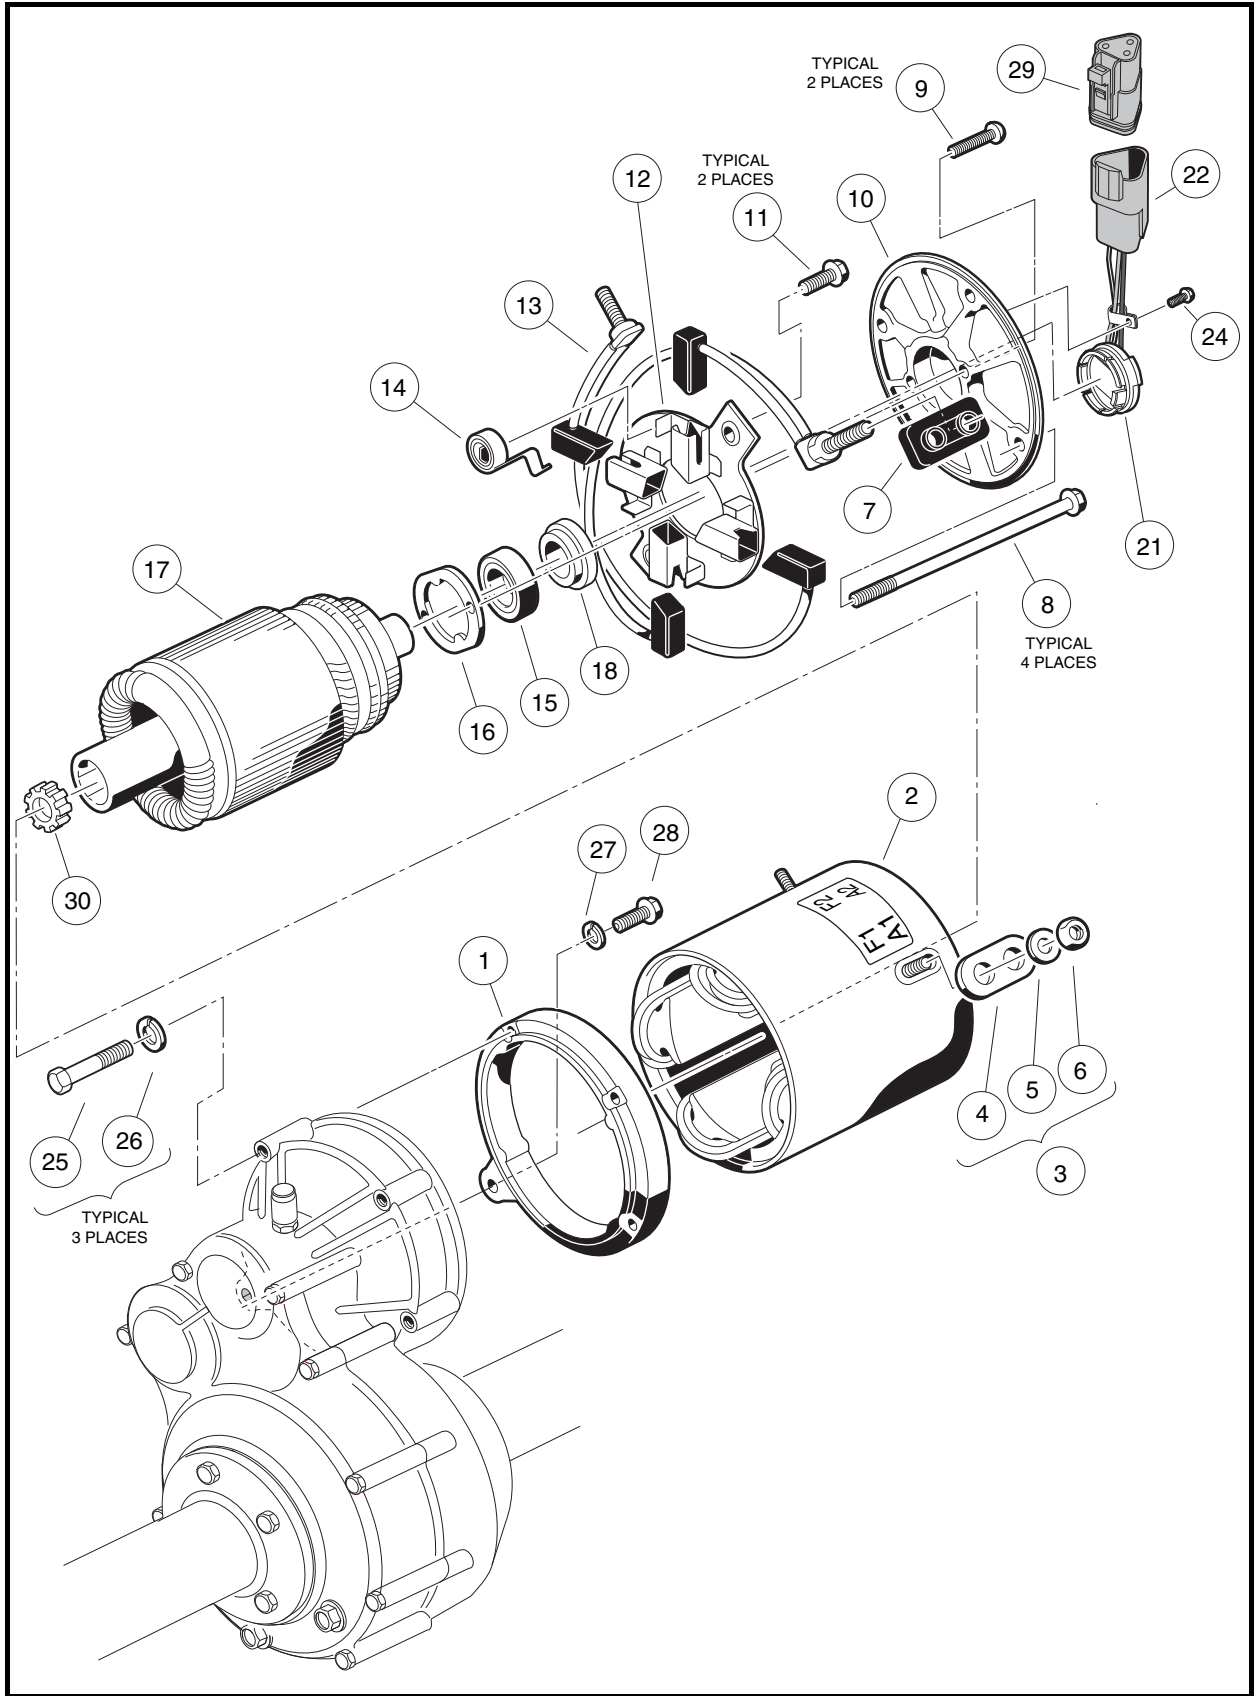

Figure 16a-9 Motor – Model 5BC59JBS6390
Inspect the speed sensor magnet (18) for rust, wear, and cracks (**Figure 16a-9, Page 16a-8**). Replace the magnet if necessary.
1. To remove the speed sensor magnet (18), remove the motor bearing (**Figure 16a-9, Page 16a-8**). See **Bearing Removal on page 16a-7**.